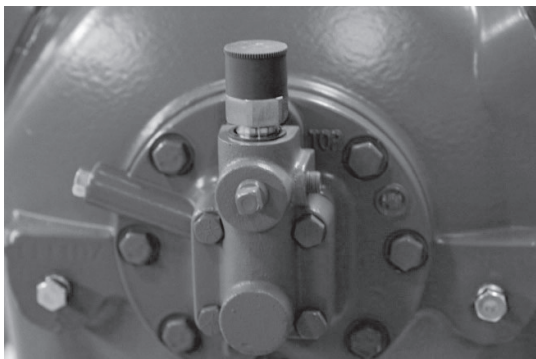

Fig. 21 — OPSS Sensor Installed
3. Install the OPSS sensor into the Sensor Block. Be sure the copper washer is in-place. Tighten the sensor's 1 in. hex nut securely to the sensor block (torque 45-55 ft/lbs). See Fig. 21.